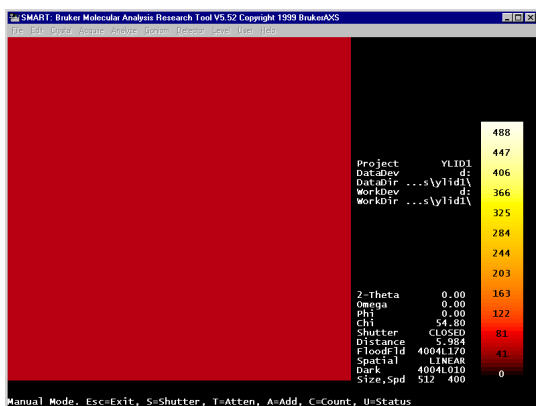
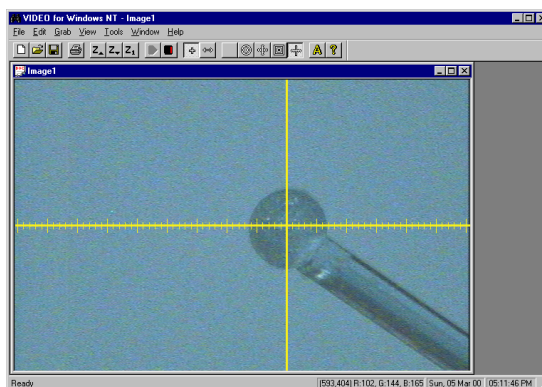

Figure 4-19. Grayed SMART screen menu bar during optical alignment
Figure 4-26. Crystal centered on crosshairs ($\phi = 90^\circ$)
The alignment process combines optical alignment steps with rotational photo steps. The menu bar at the top of the SMART screen remains gray (Figure 4-19) until you complete the optical alignment step and exit by pressing the ESC key.
- Adjust the goniometer head's Y-axis adjustment screw (Figure 4-19) to center the crystal on the crosshairs intersection (Figure 4-26).